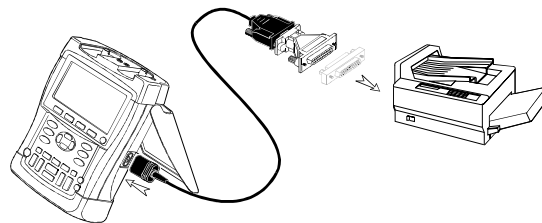

Figure 34. Connecting a Serial Printer
- The Optically Isolated RS-232 Adapter/Cable (PM9080) to connect a serial printer to the OPTICAL PORT of the test tool. (See Figure 34.)